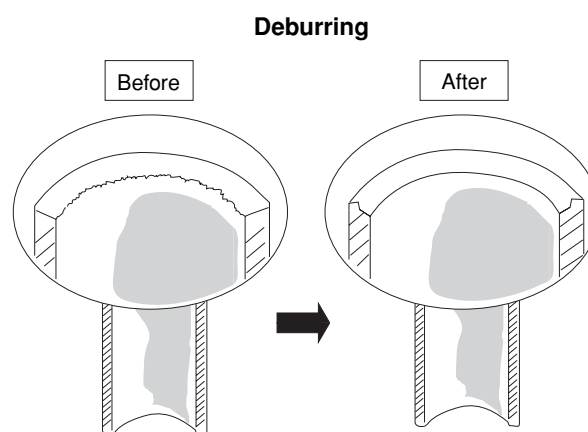

Fig. 6-1
- (1) Cut the copper tube to the required length with a tube cutter. It is recommended to cut approx. 1 – 2 ft. longer than the tubing length you estimate.
- (2) Remove burrs at the end of the copper tube with a tube reamer or file. This process is important and should be done carefully to make a good flare. (Fig. 6-1)